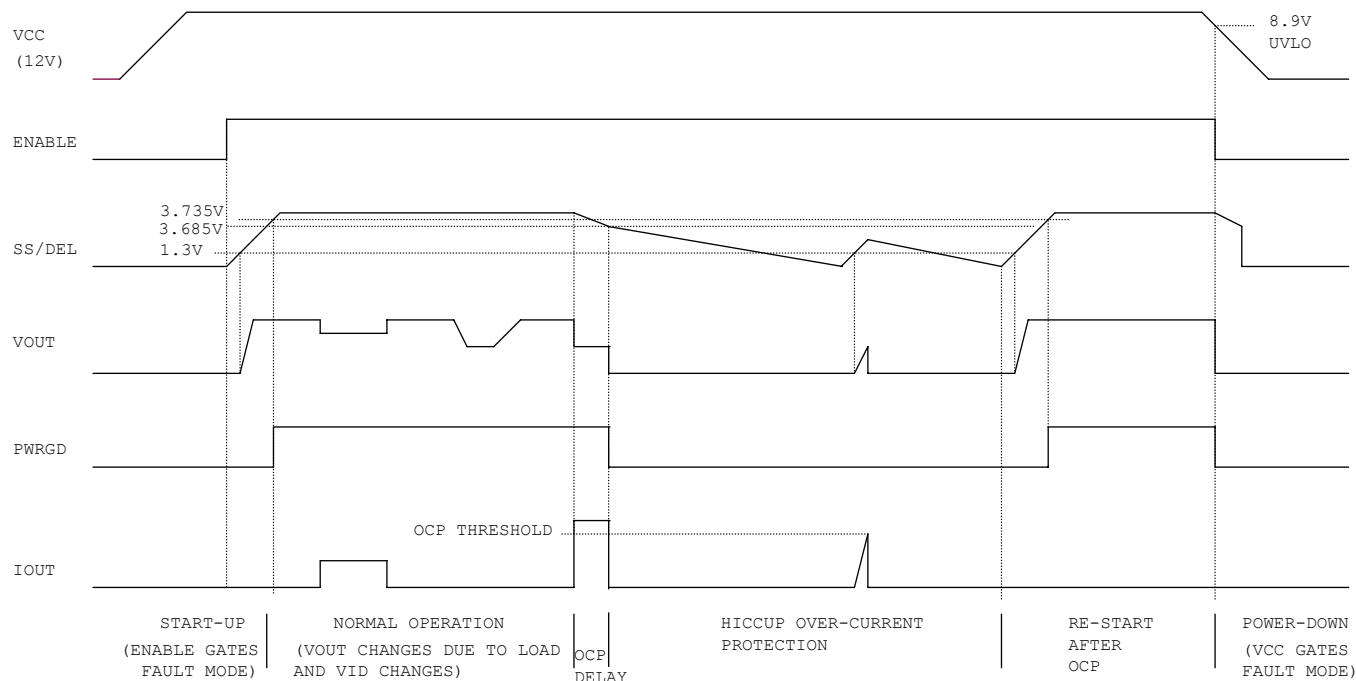

Figure 10. Operating Waveforms
Figure 10 depicts the various operating modes as controlled by the SS/DEL function. If there is no fault, the SS/DEL pin will begin to be charged. The error amplifier output is clamped low until SS/DEL reaches 1.3V. The error amplifier will then regulate the converter's output voltage to match the SS/DEL voltage less the 1.3V offset until it reaches the level determined by the VID inputs. The SS/DEL voltage continues to increase until it rises above 3.71V and allows the PWRGD signal to be asserted. SS/DEL finally settles at 3.8V, indicating the end of the soft start.
The  $SS/DEL$  pin voltage controls the slew rate of the converter output voltage, as shown in Figure 10. After the  $ENABLE$  pin voltage rises above 0.6V, there is a soft-start delay time  $t_{SSDEL}$ , after which the error amplifier output is released to allow the soft start. The soft start time  $t_{ss}$  represents the time during which converter voltage rises from zero to  $V_O$ .  $t_{ss}$  can be programmed by an external capacitor, which is determined by Equation (1).